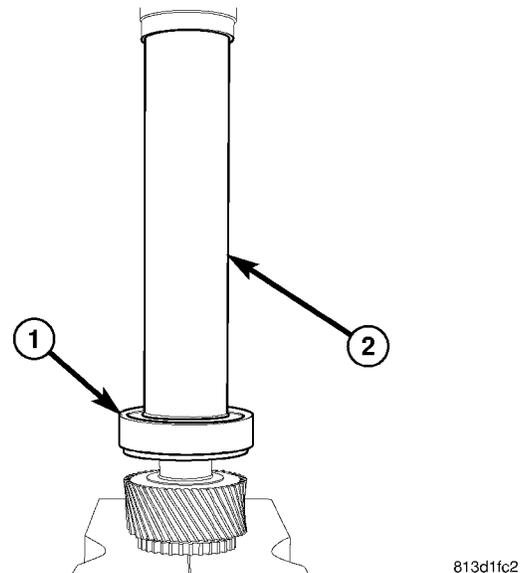

Fig. 93 INPUT SHAFT BEARING INSTALLER
(2) Install input shaft bearing (1) (Fig. 93) with Installer 6448A (2) and a press.